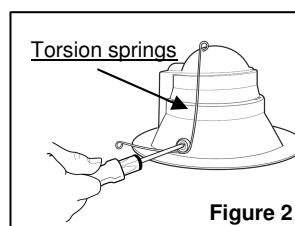

Figure 2
1. Remove the springs (see Figure 2).